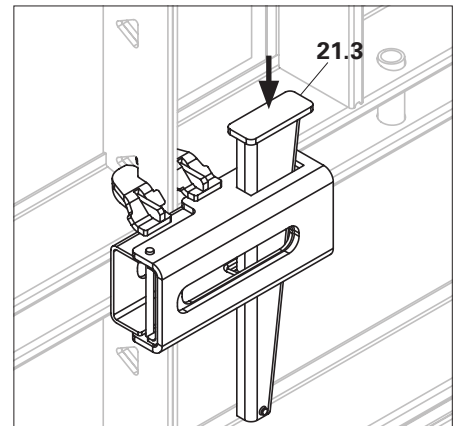

Fig. A4.06
3. Hammer the wedge (21.3). (Fig.A4.06)